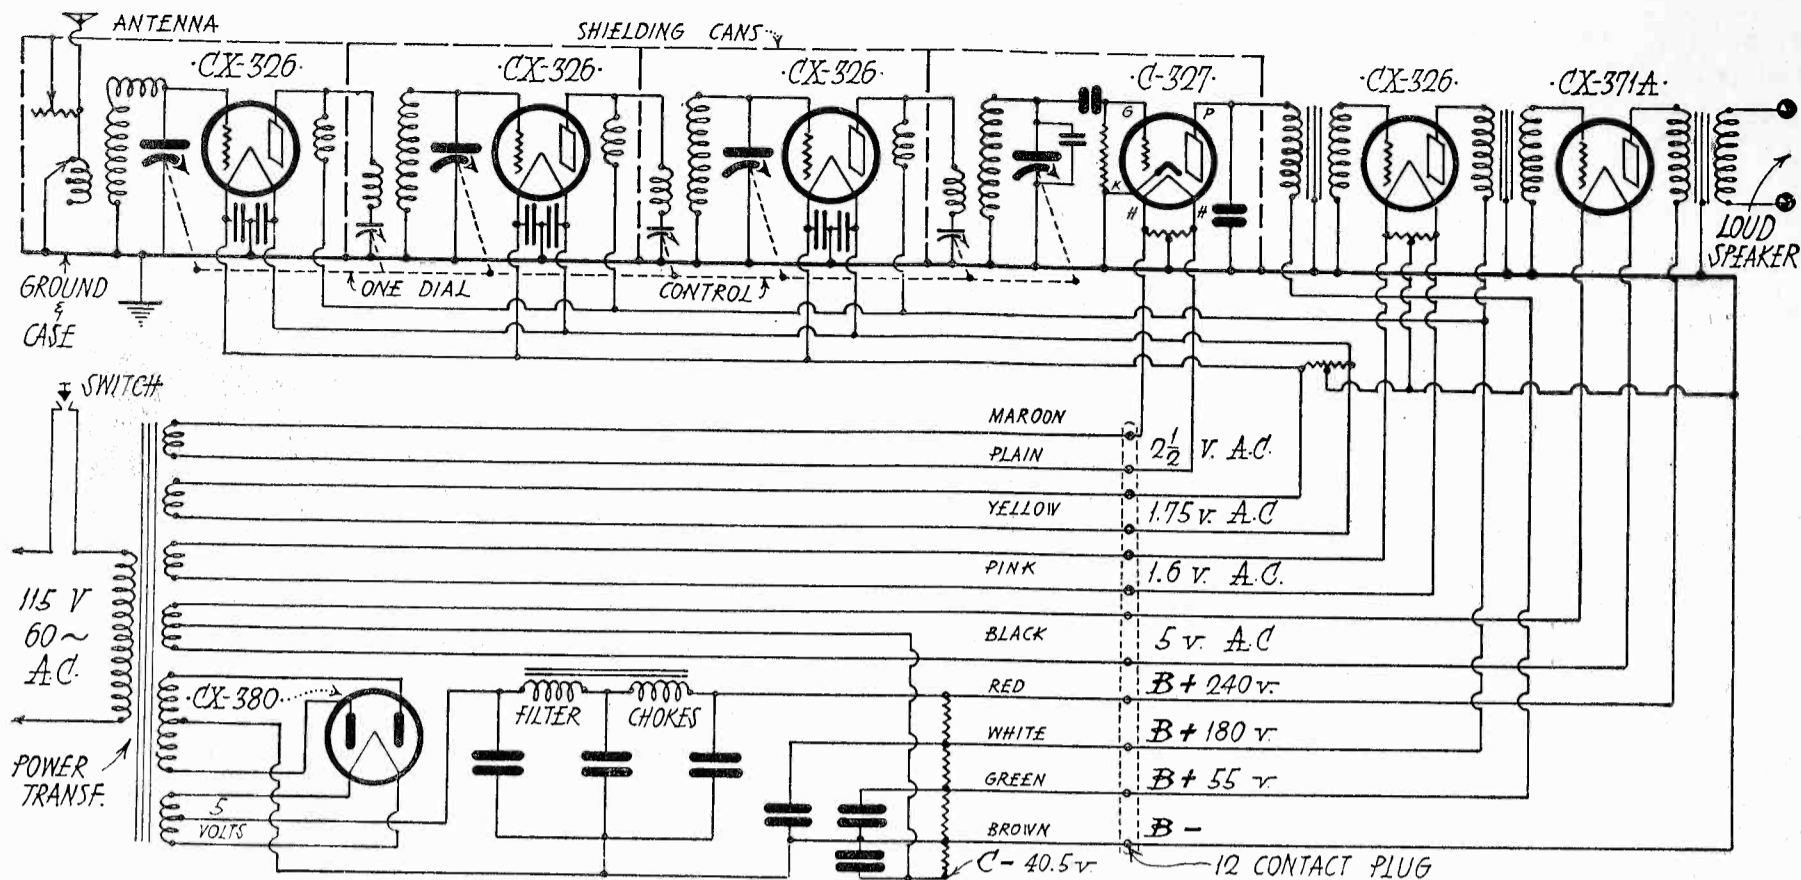

Fig. 7. Stewart-Warner Model 715 A.C. Receiver.
**T**HE circuit of the Stewart-Warner Model 715 one dial control receiver, in Fig. 7, is an interesting variation of the a.c. models, since it incorporates a different system of balancing the filament circuits, and has a unique r.f. amplifier system. As can be seen from the diagram, the volume control consists of a variable resistance shunted across the antenna primary coil, so that there are no variable fila-